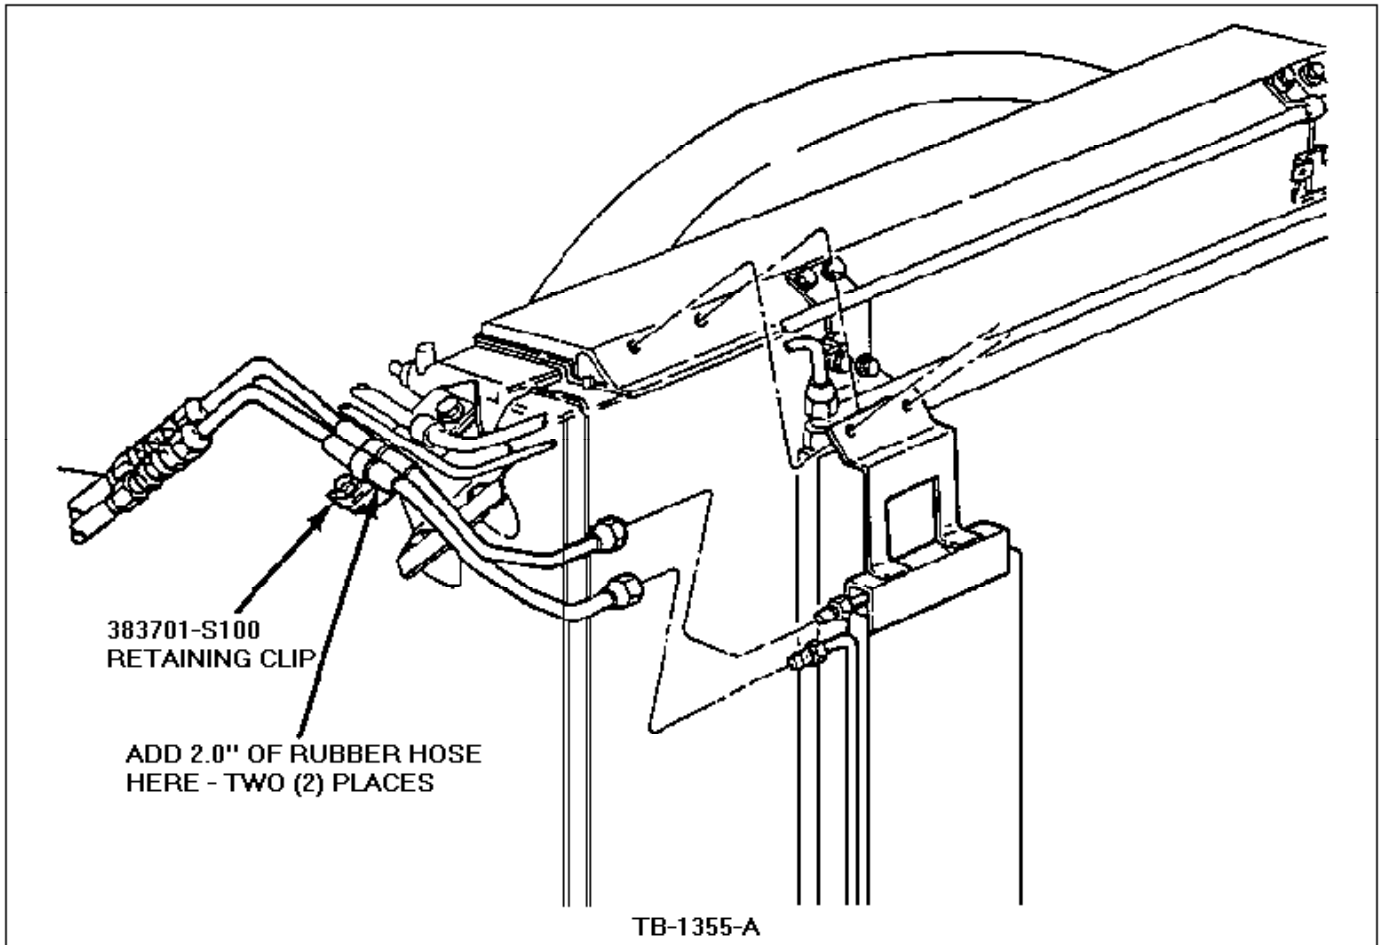

Figure 2 - Article 90-2-15
2. Remove the oil cooler tube retaining clip, Figure 2.